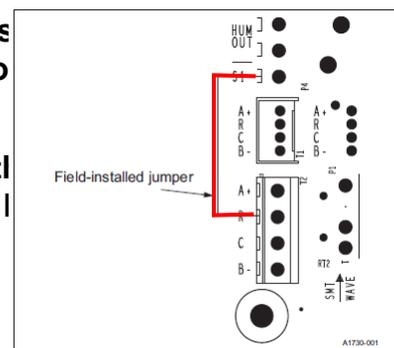

Figure 24: Variable speed board S1 jumper
2. Place a wire jumper from the R terminal on the communicating wiring connection to the S1 input as shown in Figure 24